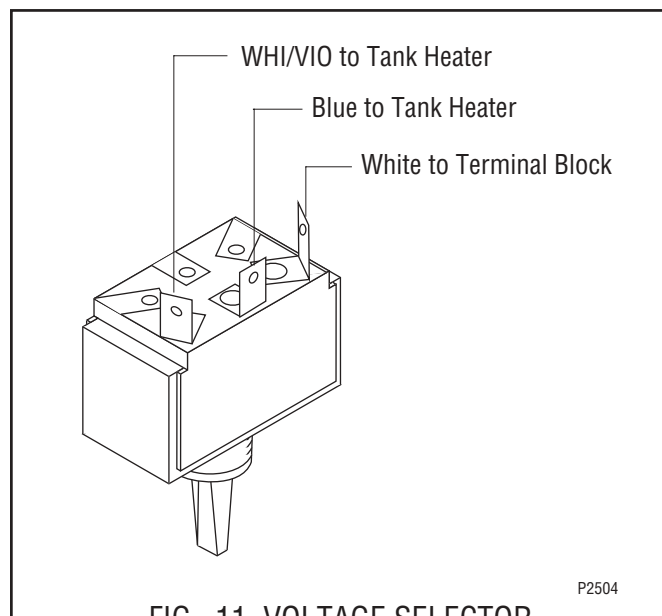

FIG. 11 VOLTAGE SELECTOR SWITCH TERMINALS
5. Refer to FIG. 11 when reconnecting wires to the switch.